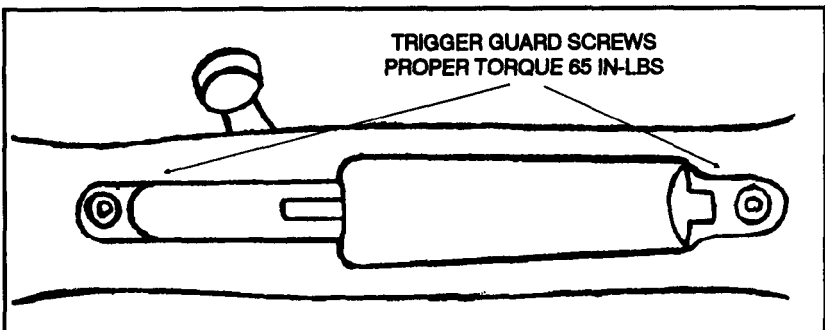

Figure 2-15. Trigger guard screws.
- e. Loosen the front and rear trigger guard screws (Figure 2-15).